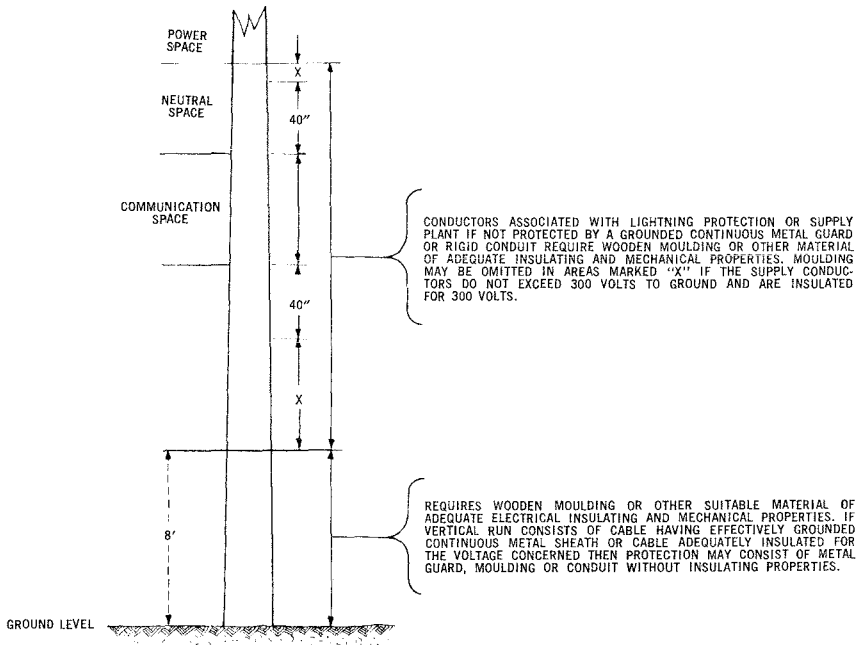

Fig. 3 — Vertical Runs on Poles
4.02 Electrical and mechanical protection for vertical runs attached to the surface of the pole is illustrated in Fig. 3 (normal level arrangement):